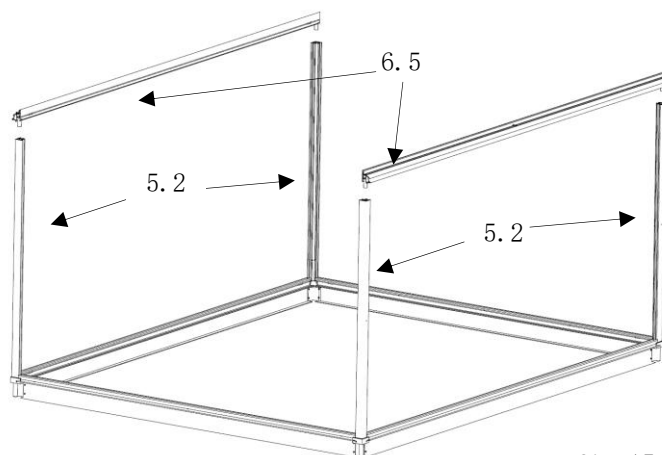

fig. 15
- the prefabricated AG-eaves-profiles (item 6.5) are inserted into the corner profiles (item 5.2). (fig. 15)
- ensure that the prefabricated BG eaves profiles (item 6.5) rest completely on the corner profiles (item 5.2)!